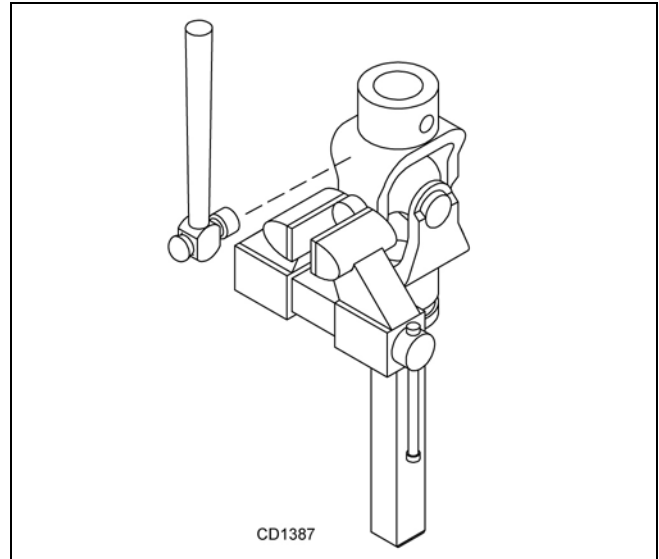

Figure 19. Remove Cups
3. Clamp cup in vise as shown in Figure 19 and tap on yoke to completely remove cup from yoke. Repeat Step 2 and Step 3 for opposite cup.